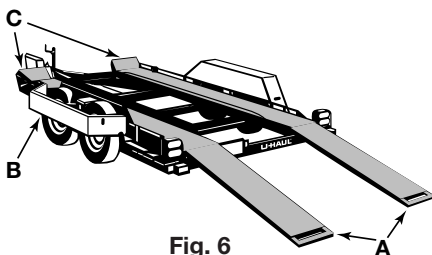
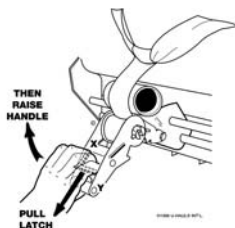

Fig. 6
Fig. 7
PREPARATION OF THE TRAILER (FIG. 6)
- Free the tire strap from the ratchet (Fig. 6 (C)). Pull on the ratchet release (X) and raise the handle (Y) as far up as you can (Fig. 7). Pull the tire strap out of the ratchet spool. Lay the strap over the outside of the trailer. Free the strap on the other side in the same manner.